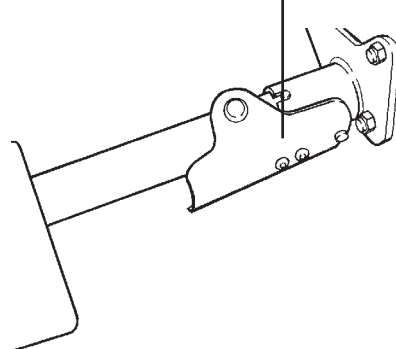

Fig. 46
5. Release the locking lever and ensure the locking pin is correctly positioned in the locating hole (Fig. 46).